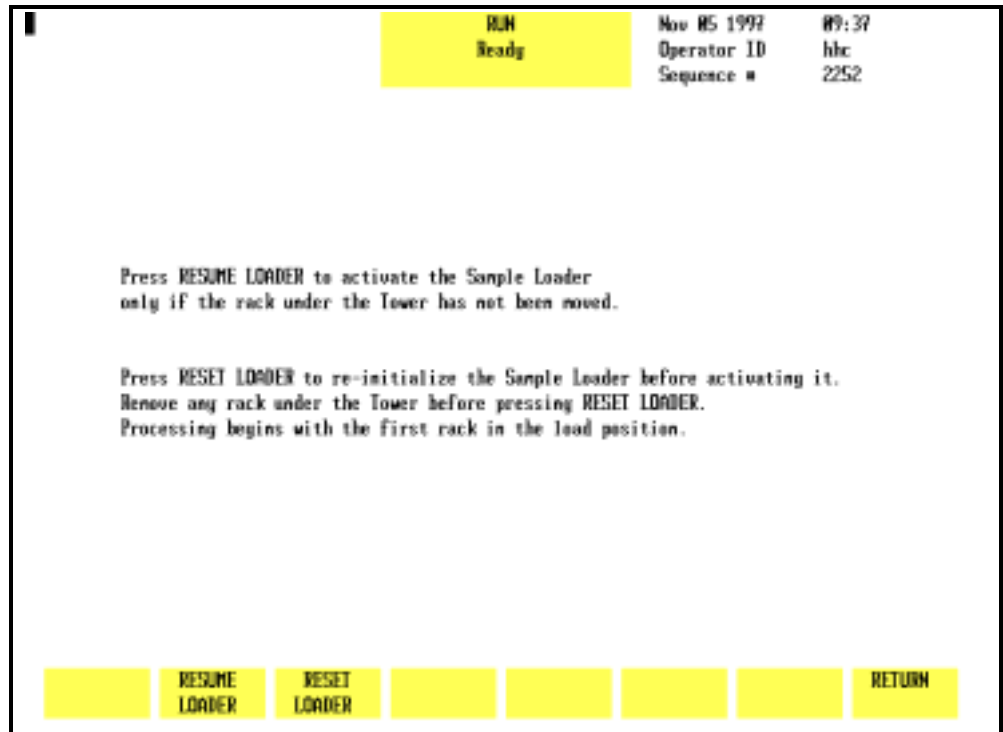

Figure 13.6: Sample Loader Restart Screen
2. A submenu that appears under certain conditions when the [START LOADER] key is pressed (refer to Figure 13.6).
Pressing the [START LOADER] key displays the RESTART menu shown in Figure 13.6 (the Sample Loader remains inactive) under the following two conditions:
Pressing the [START LOADER] key after the [STOP LOADER] or [CLEAR FAULT] key was pressed will not automatically activate the Sample Loader. Instead, the Sample Loader RESTART menu (refer to Figure 13.6) is displayed with three soft keys: